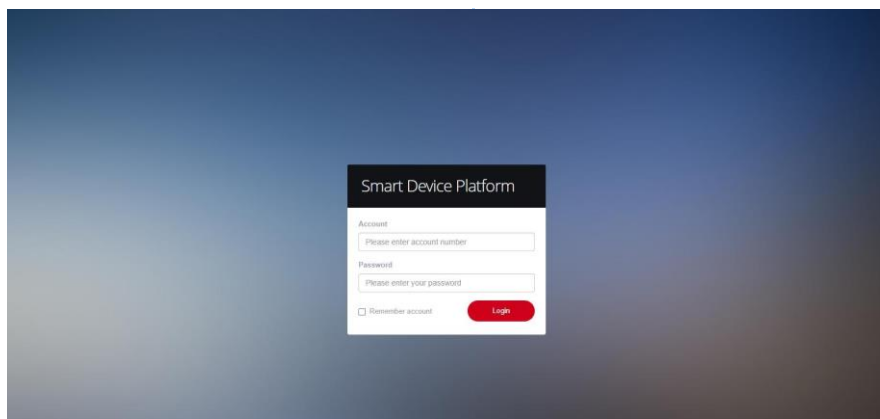

Figure 5-107
Step 2: The platform exits and returns to the login interface, as shown in Figure 5-107 below.